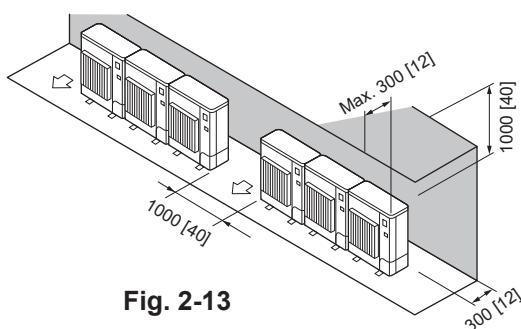

Fig. 2-13
2. Obstacles at rear and above only (Fig. 2-13)